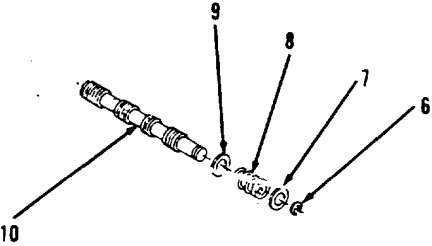

Figure 14-103.
- 10. Install washer (9), spring (8), washer (7) and lock ring (6) on spool (10, Figure 14-103).